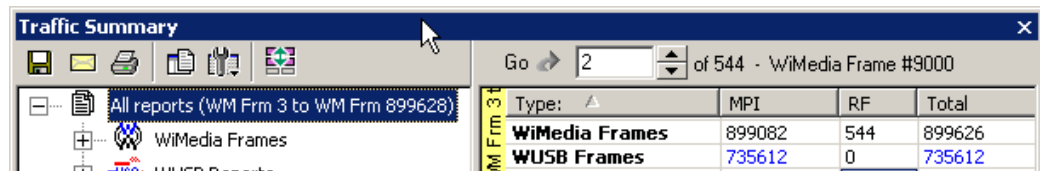

Figure 9.17 Set Go Box to Second MPI Data Frame
Step 4 In the Go box, enter 2 to indicate that you want to go to the second MPI Data frame in the trace (Figure 9.17).